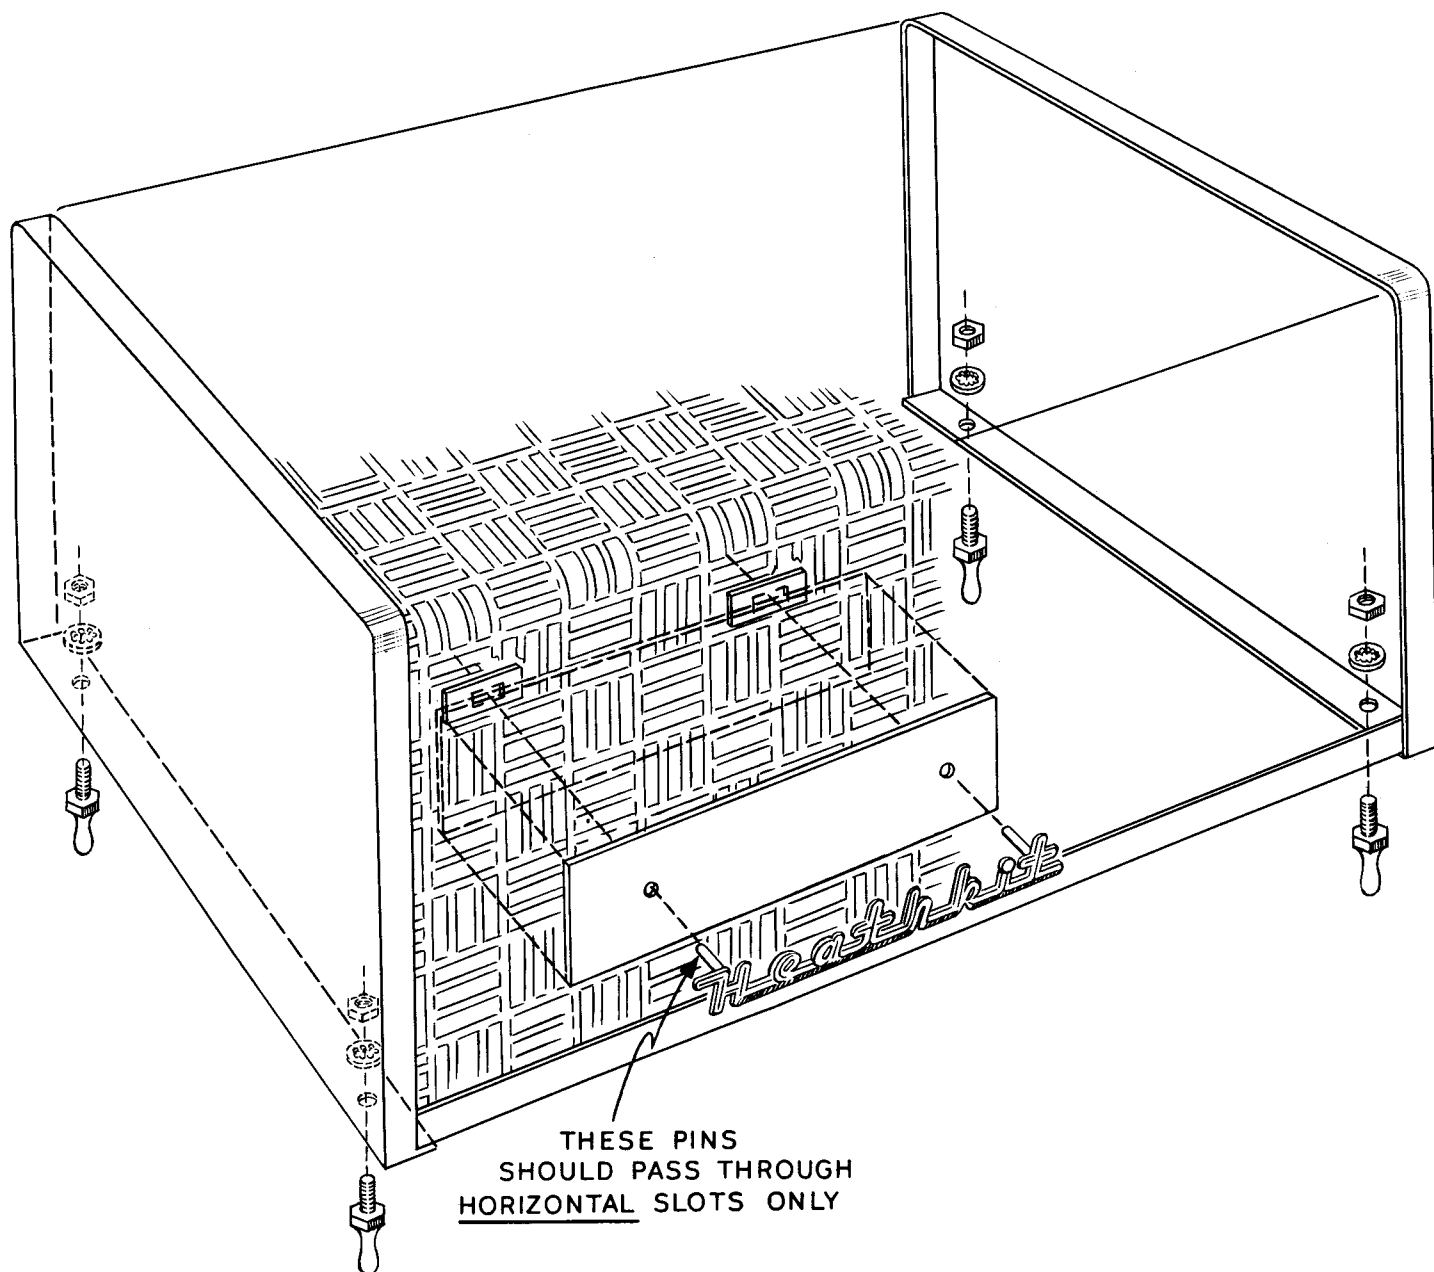

Figure 16
- () Slip a 1 5/8" length of sleeving over one end of the wire. Form a small hook at the end and insert the hooked end, with the sleeving in place, under the group of resistors between socket V5 and filter condenser G. Connect the hooked end to filter condenser H4 (S). Push the sleeving snugly against H4.
- () Connect one lead to CC1 (S).
- () Connect the adjacent end to CC2 (S).
- (*) Identify the four spring-catch pins, referring to Figure 16. Mount pins at each of the four corners of the cover, using 6-32 lockwashers and nuts.
- (*) Referring to Figure 16, attach the plastic name-plate and escutcheon to the cover screen using the speed nuts provided. A suggested location is given in Figure 16. Any of the horizontal slots in the cover will accept the name-plate pins if some other location is preferred.